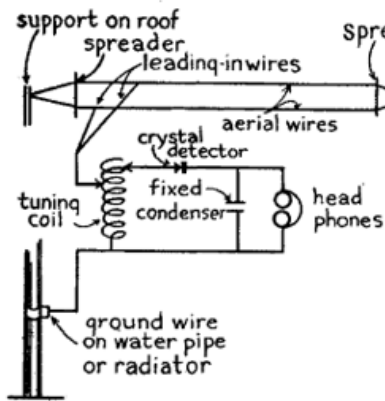

FIG. 1.—Simple Receiving Set.
The simplest receiving set consists of (1) a *detector*, (2) a *tuning coil*, and (3) a *telephone receiver* and these three pieces of apparatus are, of course, connected together and are also connected to the aerial and ground as the diagram in *Fig. 1* clearly shows. There are two chief kinds of detectors used at the present time and these are: (a) the *crystal detector*, and (b) the *vacuum tube detector*. The crystal detector is the cheapest and simplest, but it is not as sensitive as the vacuum tube detector and it requires frequent adjustment. A crystal detector can be used with or without a battery while the vacuum tube detector requires two small batteries.